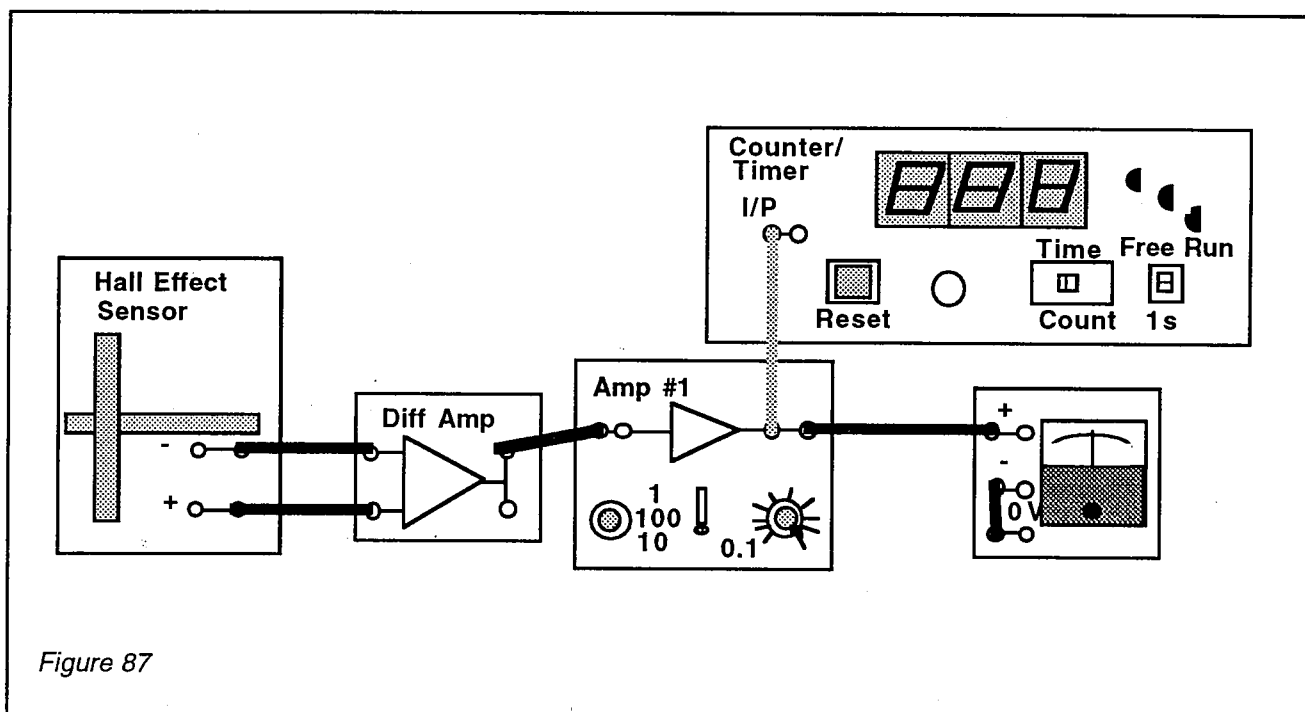

Figure 87
- Connect the circuit as shown in Fig 87 and set the Amplifier #1 gain controls to 10 and 1.0 for the coarse and fine controls respectively.